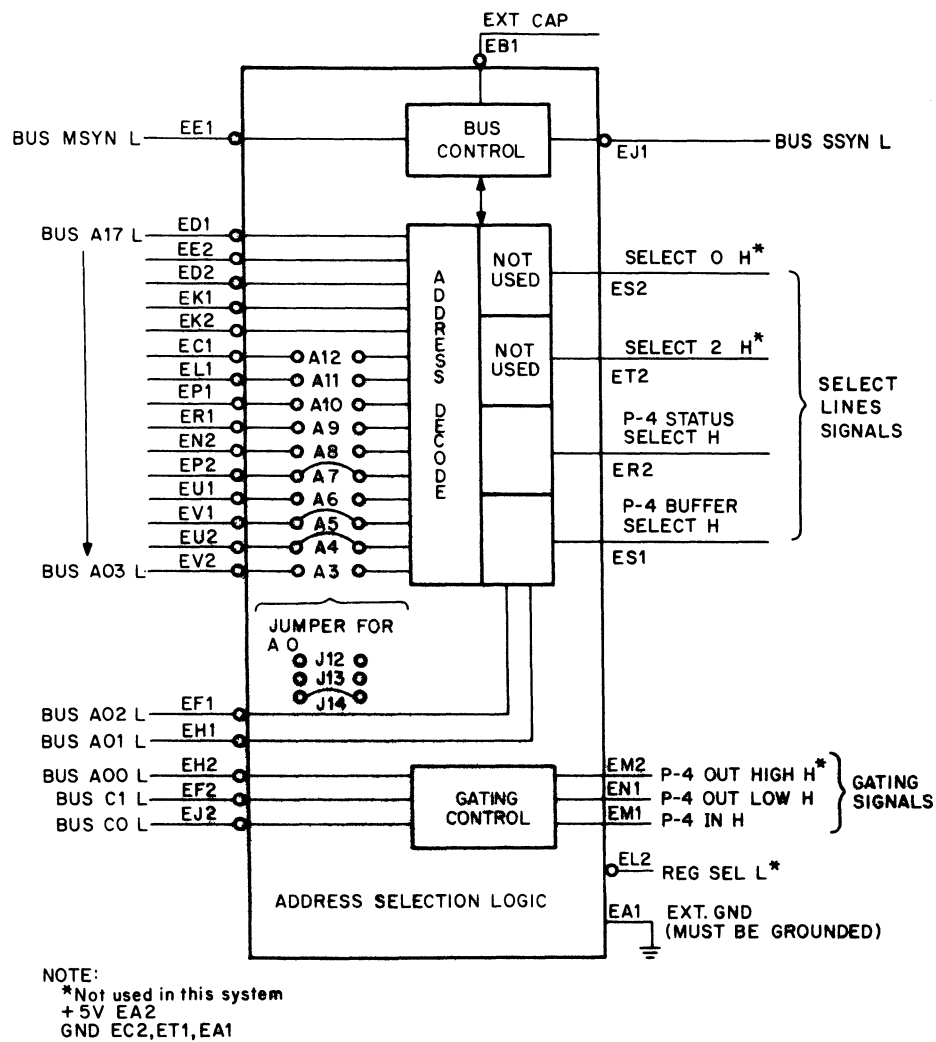

Figure 4-3 Address Selection Logic, Simplified Diagram
4.2.1.1 Address Inputs – A simplified block diagram of the address selection logic is shown in Figure 4-3. Note that IN and OUT are always used with respect to the master (controlling) device. Thus, when the line printer controller is used, an OUT transfer is a transfer of data out of the master (the processor) and into the device. Likewise, an IN transfer is the operation of the controller furnishing data to the processor.